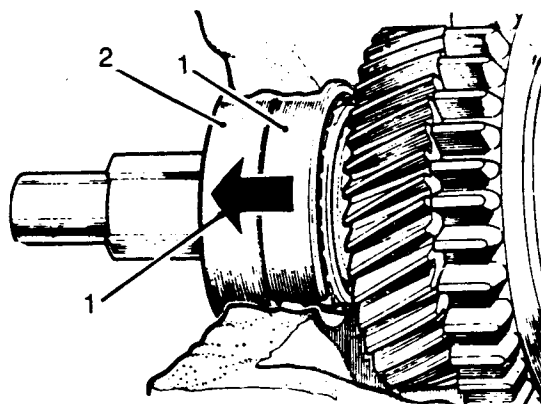

Fig H2.18
- (6) Refer to Fig H2.18. With the slave bearing (1) fitted in position, knock the output shaft forward.
- (7) Remove the front bearing outer track (2).
- (8) Once the front bearing outer track has been removed, remove the slave outer track which was used as an extractor.